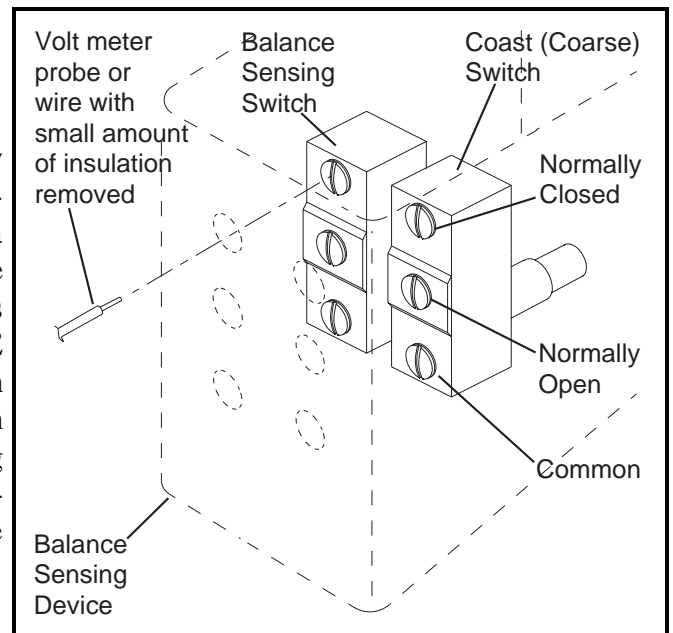

FIGURE 9 (MSSMA401AE)
1. Connect an ohm meter across the common and the normally open terminals on the Balance Sensing Switch SMEBS. See FIGURE 9 to identify the common and the normally open terminals on this switch. The ohm meter should read a finite resistance (a resistance significantly greater than zero) - or turn the balance sensing screw CCW until a finite resistance is read. Now actuate the SMEBS by hand and observe that the resistance goes to substantially zero, (thus indicating that the normally open contacts have closed and only the resistance of the closed contacts themselves is being read by the meter).